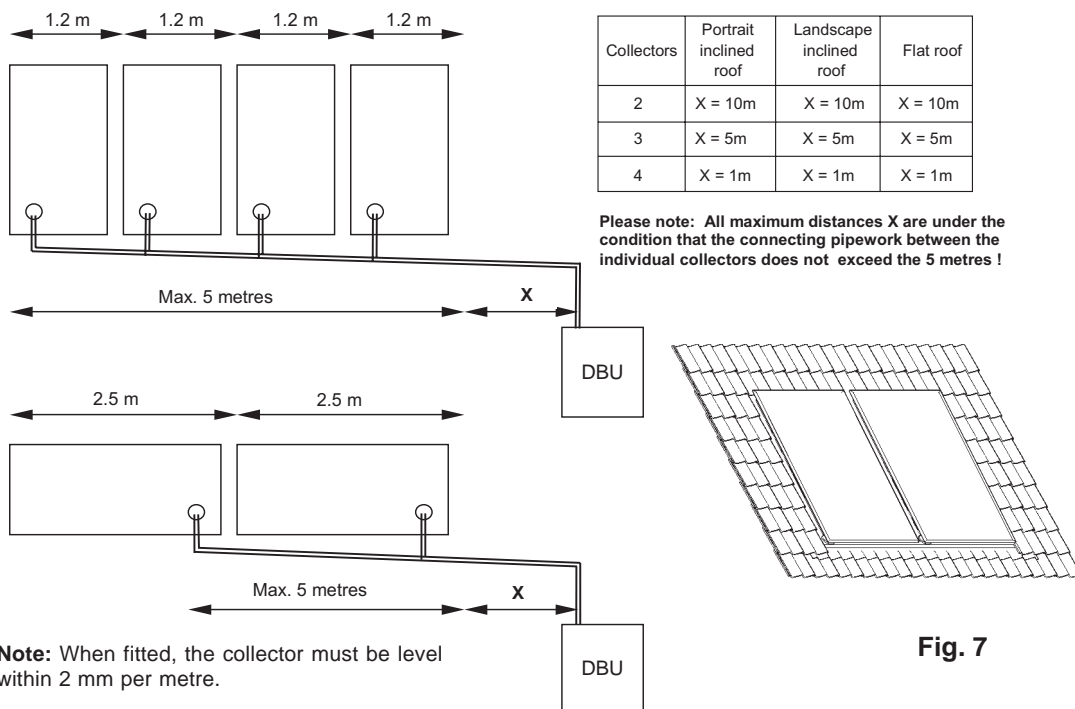

Fig. 7
3.6 SOLAR COLLECTOR INFORMATION - Fig. 7
- a. Integration of the collector into the tiles of a pitched roof:** Using the Alpha Flashing Kit (portrait or landscape), landscape or portrait collectors can be integrated into the structure of a pitched roof as shown in Fig. 7. The roof must have an inclination of more than 20° for portrait and 30° for landscape. The tiles used with the flashing kit must be suitable to ensure that the installation is weatherproof. Full details of this type of installation are provided in the instructions supplied with the kit.